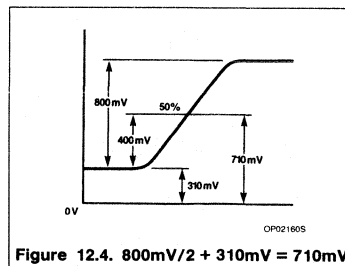

Figure 12.4. $800\text{mV}/2 + 310\text{mV} = 710\text{mV}$
6. The standard DC offset for a 10K ECL input signal is 310mV (see Figure 12.4).